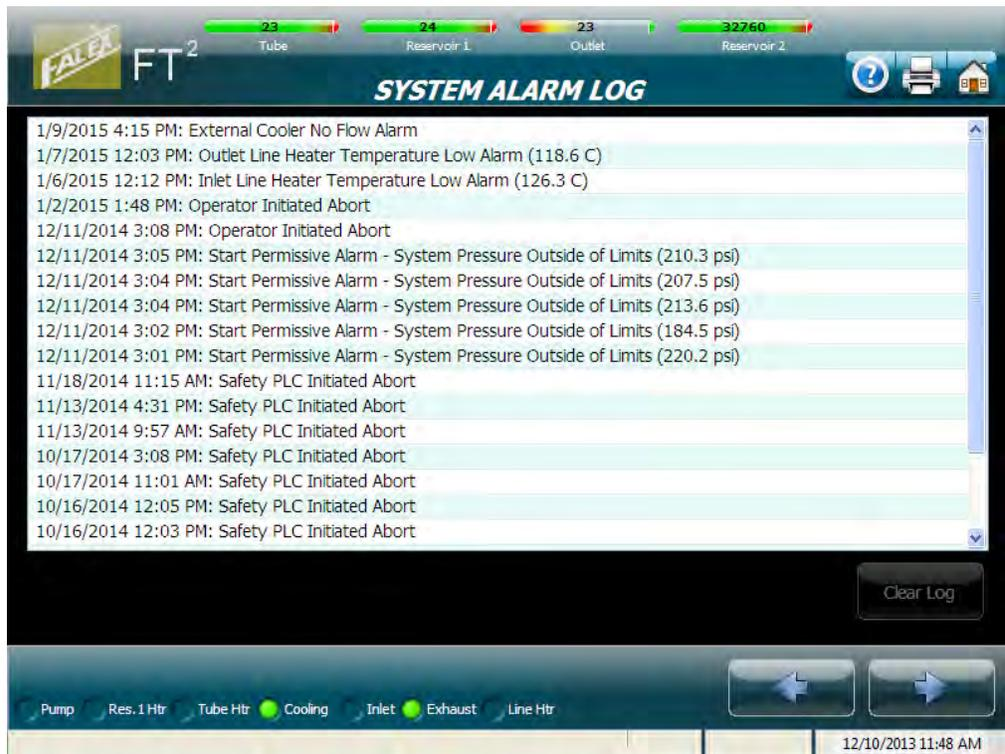

Figure 4-75 – System Alarm Log display
The System Alarm Log display shows the last fifty (50) alarms/aborts that have occurred (figure 4-75). They are shown with the most recent alarm/abort at the top and the oldest at the bottom. A date and time stamp of when the alarm/abort happened and a short description are shown. Refer to Addendum A to see all available alarm/abort conditions and associated messages.